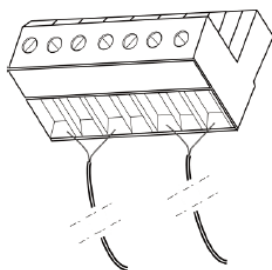

Figure 17 Connecting the Audio Output Cable to the Power Amplifier Input Wiring Terminal
- b. Take the end of the cable that was fed through the protective cover of the power amplifier wiring terminal connect the cable to the power amplifier output wiring terminal (7P green euroblock connector of 5.08mm), and tighten the screws. Refer to Figure 17.
- d. Connect the end of the cable that was fed through the protective cover of the ZS-2000M to the power amplifier input wiring terminal (4P green euroblock connector of 5.08mm), and tighten the screws. Refer to Figure 17.
Strip the wire jacket off one end of the prepared dry contact connection cable by about 10mm, insert the wires into the dry contact wiring terminal (8P green euroblock connector of 3.81mm), and tighten the screws. Refer to Figure 17 for more information.